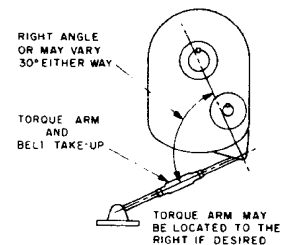

Fig. 4
7. Install torque arm fulcrum on a rigid support so that the torque arm will be approximately at right angles to the center line through the driven shaft and the torque arm anchor screw. (See Fig. 4) Make sure that there is sufficient take-up in the turnbuckle for belt tension adjustment when using V-belt drive.